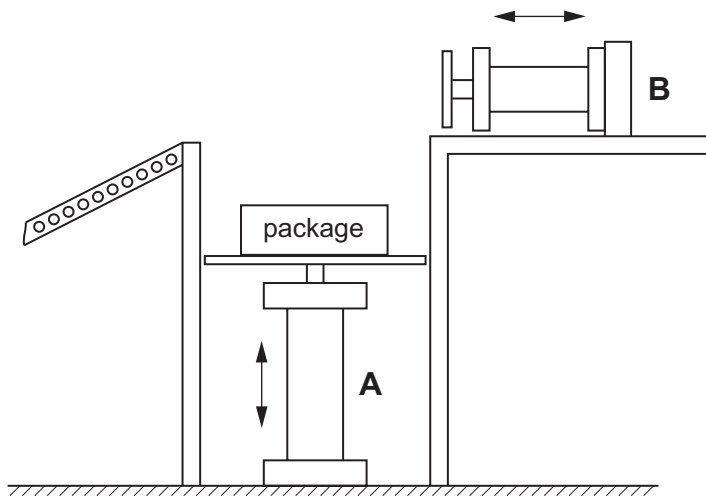
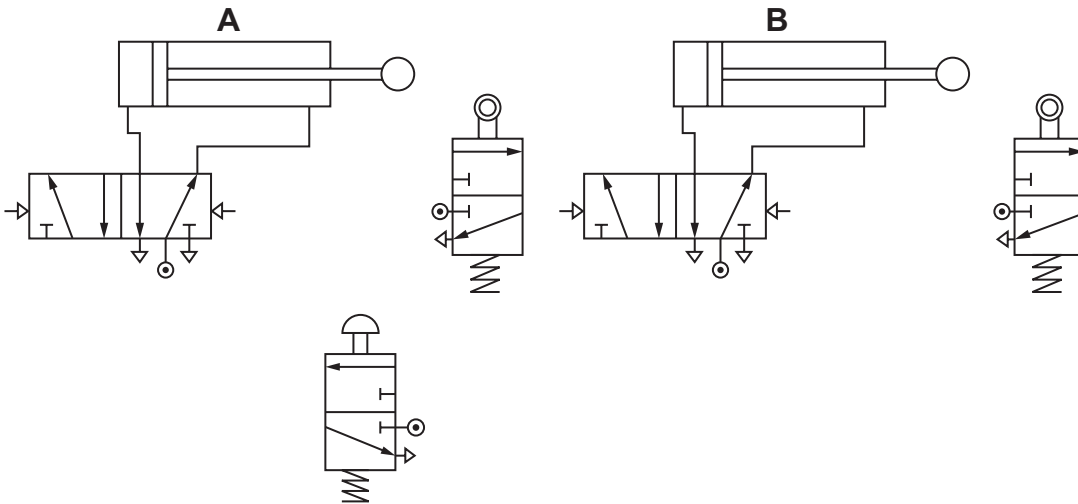

Fig. 3
Fig. 4
- (c) **Fig. 3** shows a lifting device for packages. When a start button is operated for an instant the package is lifted by cylinder **A**. Cylinder **B** then pushes the package onto a gravity-roller conveyor. Both cylinders then return to their initial position.
Part of the pneumatic circuit for **Fig. 3** is shown in **Fig. 4**.
- (i) Complete the pneumatic circuit in **Fig. 4** by adding the pipework to give the required sequence.